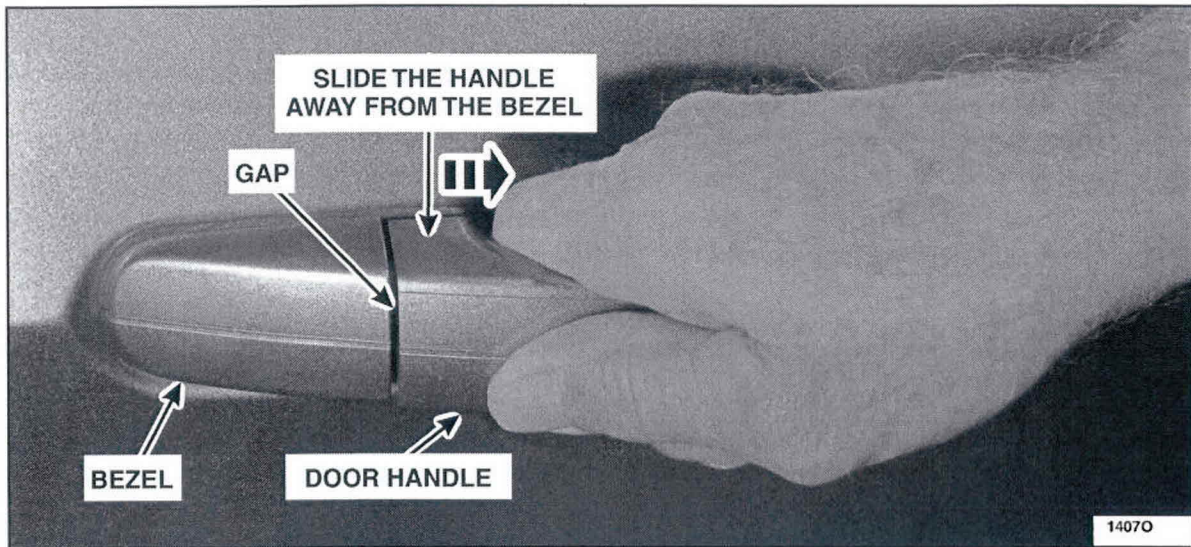

FIGURE 2
3. Slide the door handle away from the bezel as far as possible to open the gap between the door handle and bezel. See Figure 2.